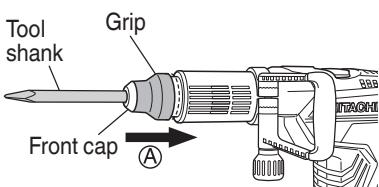

Fig. 5
As shown in Fig. 5, slide the grip in the direction of (A) and pull out the tool.